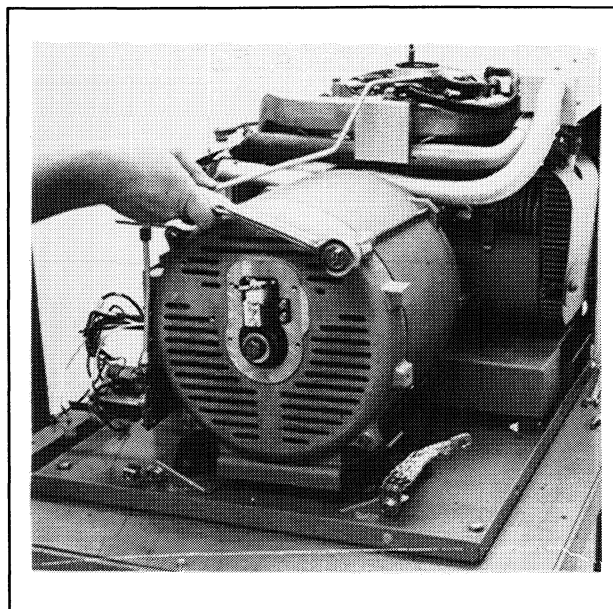

Figure 8-18. Torquing Overbolts
6. Replace the four overbolts which secure the end bracket and stator to the adapter plate. Torque overbolts to 70 in. lbs. (8 Nm). Figure 8-18.